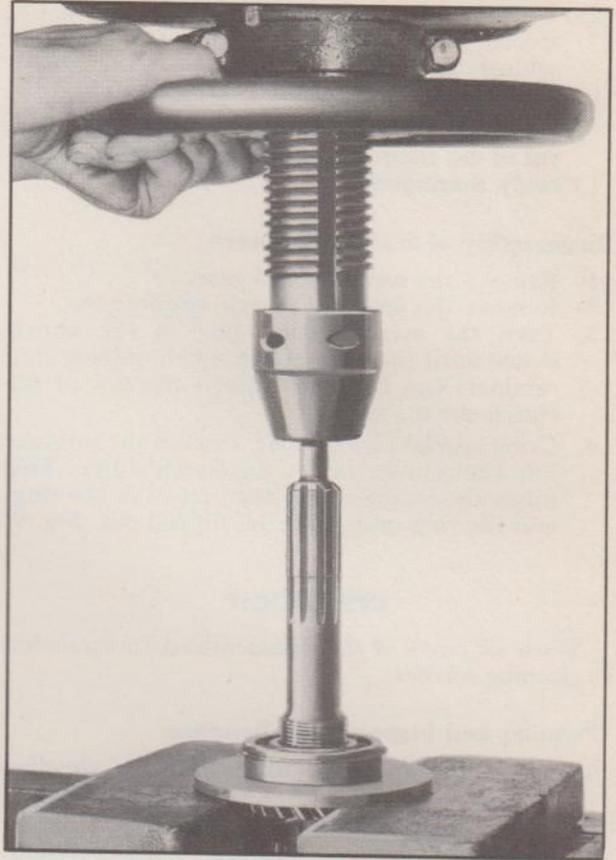

Fig. 8—Removing Clutch Gear Bearing
2. To remove the clutch gear bearing, place the special press plate, J-936, over the gear and against the bearing. Using an arbor press, press the shaft out of the bearing, Fig. 8.